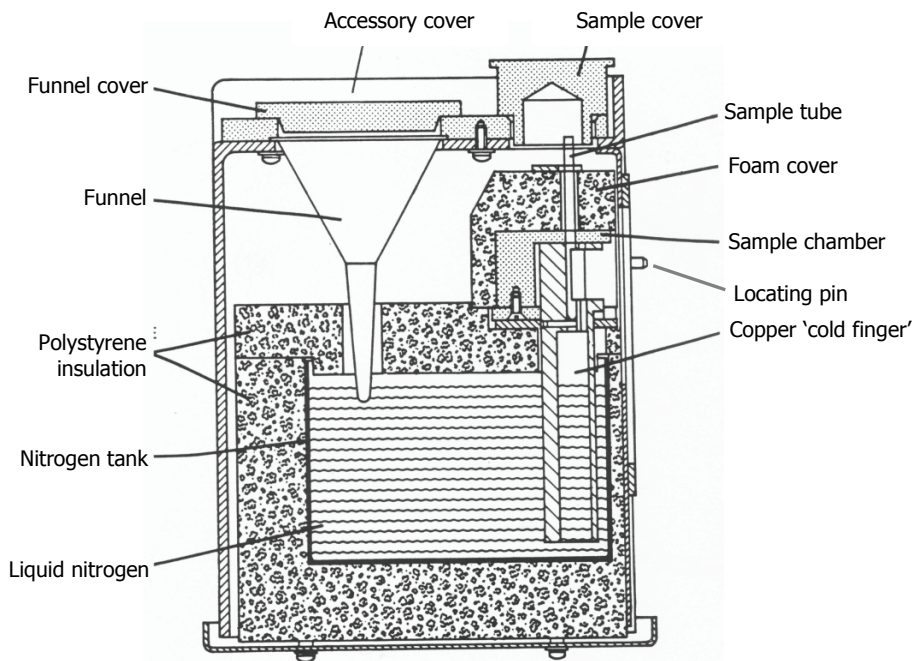

Figure 108 Cross-section through the Low Temperature Accessory
Before installing the accessory, any filters or attenuators that need to be inserted into the sample area brackets should be installed. Figure 108 shows the parts of the Low Temperature Accessory.
6. Insert the two locating pins (see Figure 108) into the corresponding holes on the instrument accessory plate.